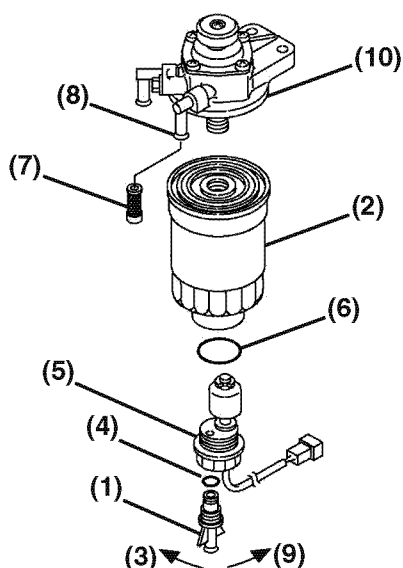

Figure 5-15
5. Carefully open the drain plug (Figure 5-15, (1)) to drain fuel from the fuel filter.
7. Remove the drain plug (Figure 5-15, (1)) from the fuel filter (Figure 5-15, (2)) by turning it to the left (Figure 5-15, (3)).
8. Check the condition of the drain plug O-ring (Figure 5-15, (4)). Replace the O-ring if damaged.
9. Set the drain plug (Figure 5-15, (1)) aside for reinstallation.
10. Remove the fuel filter sensor assembly (Figure 5-15, (5)) by turning it to the left (Figure 5-15, (3)).
11. Carefully remove the in-line fuel filter (Figure 5-15, (7)) from the output nipple (Figure 5-15, (8)) that goes to the fuel injection pump.
13. Carefully install the new in-line fuel filter (Figure 5-15, (7)) into the output nipple (Figure 5-15, (8)).
14. Carefully install the fuel filter sensor assembly (Figure 5-15, (5)) in the new fuel filter (Figure 5-15, (2)) by turning the fuel filter sensor assembly to the right (Figure 5-15, (9)).
15. Install the drain plug (Figure 5-15, (1)) on the new fuel filter (Figure 5-15, (3)) by turning the drain plug to the right (Figure 5-15, (8)). Hand tighten only.
16. Clean the fuel filter mounting surface (Figure 5-15, (10)) and apply a small amount of diesel fuel to the gasket of the new filter.
Applicable In-Line Fuel Filter Part No. (Figure 5-15, (7))